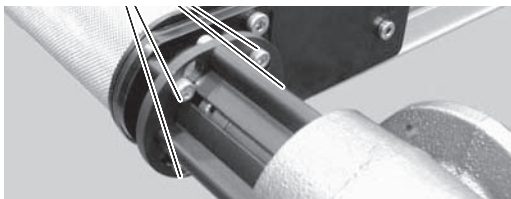

Figure 45
b. Loosen the four (4) lock screws (Figure 45, item BK).